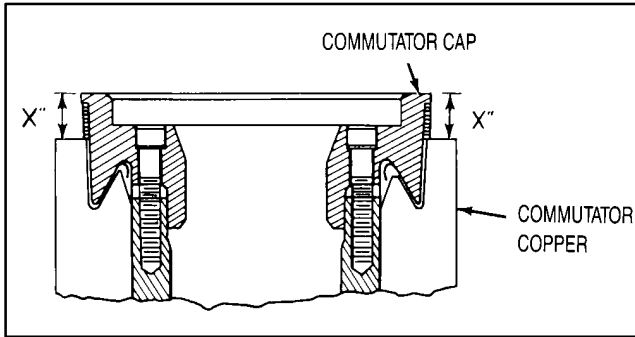
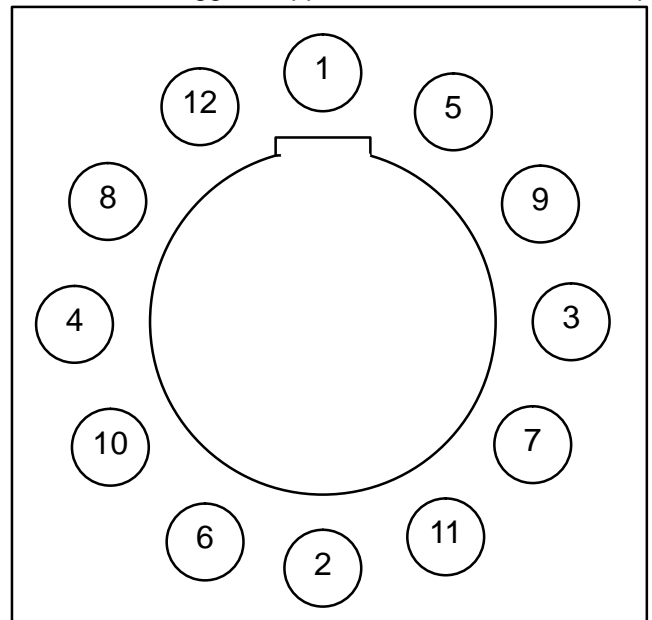

FIG. 25. COMMUTATOR TIGHTENING. E-4270B.
FIG. 27. COMMUTATOR BOLT TIGHTENING SEQUENCE. E-4502.
1. Clean the front face of the cap and the segments, Fig. 25. Remove ONE bolt at a time, and lubricate the bolt threads and under the bolt head. See Lubrication of Bolts section. Follow the sequence shown on Fig. 27 for bolt removal. Reassemble bolt and tighten to the initial breakaway torque value.
2. Using a depth micrometer, measure the distance (X in Fig. 25) between the face of the cap and the segments at four points, 90 degrees apart. The face of the cap and the segments should be parallel within 0.020 in. If necessary, tighten the appropriate cap bolts to obtain this parallel relationship between the face of cap and the segments.
4. Tighten the commutator bolts to 145 lb.-ft. torque in a crisscross sequence, Fig. 27. Tighten the bolts twice in this sequence, then tighten bolts once-around at 145 lb.-ft. torque.
1. Clean the front face of the cap and the segments. Using a depth micrometer, measure the distance (X in Fig. 25) between the face of the cap and the segments at four points, 90 degrees apart. The face of the cap and the segments should be parallel within 0.020 in.
3. Repeat Step 2 for remaining bolts, following the crisscross tightening sequence shown on Fig. 27.